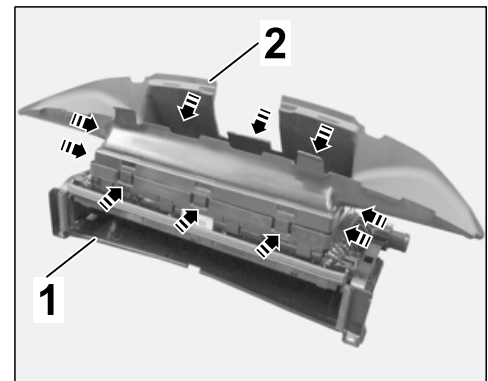

Figure 14
- 3.2 Fit new center air guide $\Rightarrow$ Figure 14 -2- into radiator assembly $\Rightarrow$ Figure 14 -1-.
Make sure that the retaining lugs $\Rightarrow$ Figure 14 -arrows- lock securely.